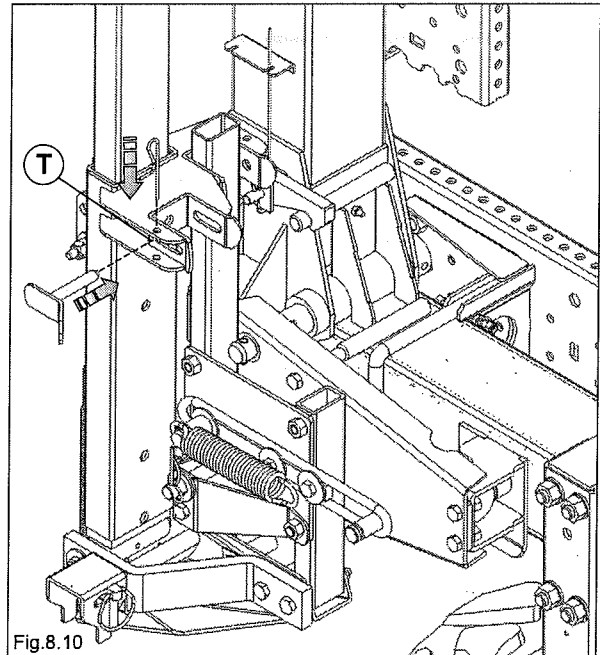

Fig. 8.10
- Insert the removed pins in position **T** (Fig. 8.10).